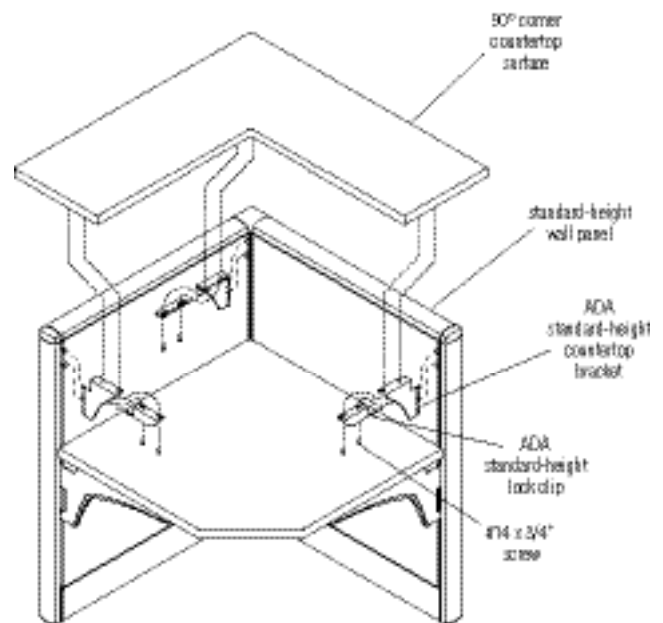

Figure 1
2. Carefully place the countertop surface face up onto the wall panels and standard-height ADA countertop brackets. Align the holes of the three brackets with corresponding holes at the center, and each end of the 90° countertop surface (Figure 1).
3. Take the left- and right-hand ADA standard-height lock clips and orient the pin ends into the post slots at the top tooth of each installed ADA standard-height countertop bracket. Make sure the mounting flanges of the outside clips orient inward and that the mounting holes of the lock clip line up with the mounting holes of the bracket. Secure the brackets and lock clips to the underside of the countertop with two #14 x 3/4" screws at each bracket location (Figure 1).